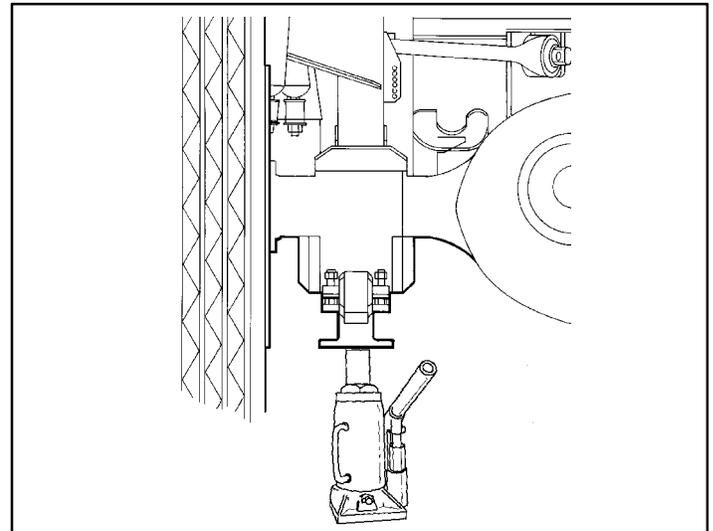

FIGURE 73. Drive axle jacking points
3. Place jack under the rear jack pad and raise the coach (Figure 73).